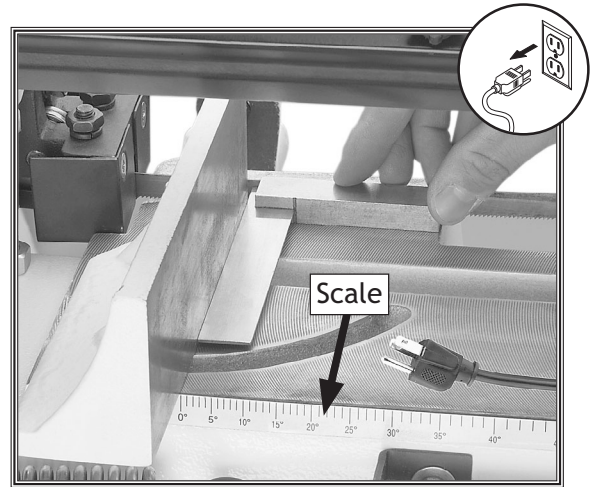

Figure 29. Using a machinist's square to adjust the vise perpendicular to the blade.
2. Check the vise with a machinist's square to make sure the vise is perpendicular to the blade and reads 0° on the scale as shown in Figure 29.